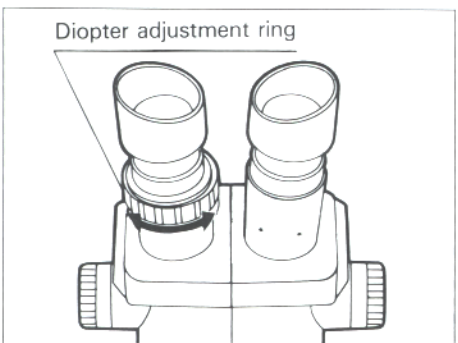

Fig. 3
- (1) Minimize the magnification power by turning the zoom control knobs.
- (2) Looking through the right eyepiece, bring the specimen into focus by turning the focusing knobs.
- (3) Looking through the left eyepiece, bring the specimen into focus by turning the diopter adjustment ring. (Fig. 3)
- (4) Maximize the magnification power by turning the zoom control knobs, and bring the specimen into focus by turning the focusing knobs.